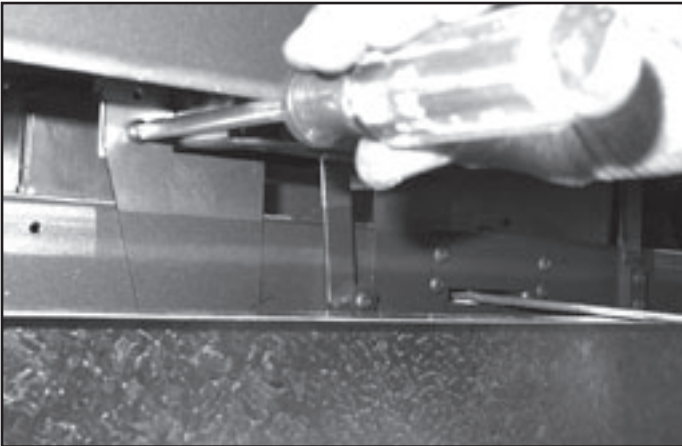

Figure 4.20 Timer Assembly Installed
- Next re-install the timer assembly through the firebox access door, re-attach the timer assembly to the air chamber cover using a Phillips head screw driver. See Figure 4.20.